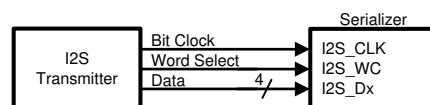

图 13. I2S Connection Diagram
The DS90UH941AS-Q1 serializer features six I2S input pins that, when paired with a compatible deserializer, supports 7.1 High-Definition (HD) Surround Sound audio applications. The bit clock (I2S\_CLK) supports frequencies between 1 MHz and the lesser of CLK/2 or 13 MHz. Four I2S data inputs transport two channels of I2S-formatted digital audio each, with each channel delineated by the word select (I2S\_WC) input. Refer to 图 13 and 图 14 for I2S connection diagram and timing information.